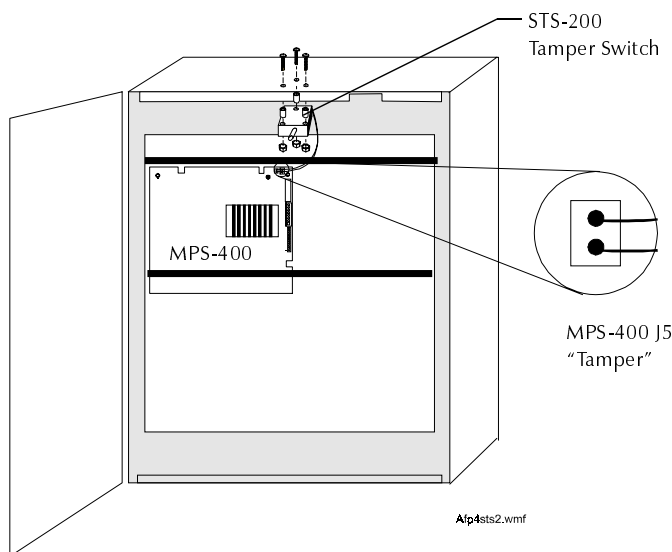

Figure 5-8 Installing the STS-200 Tamper Switch
Wire the cabinet with a security tamper switch kit (Figure 5-8). CAB-400AA cabinets require tamper switch model STS-200; CAB-X3 cabinets require model STS-1.
1. Install the STS-200 Tamper Switch onto the CAB-400AA as shown in Figure 5-8.